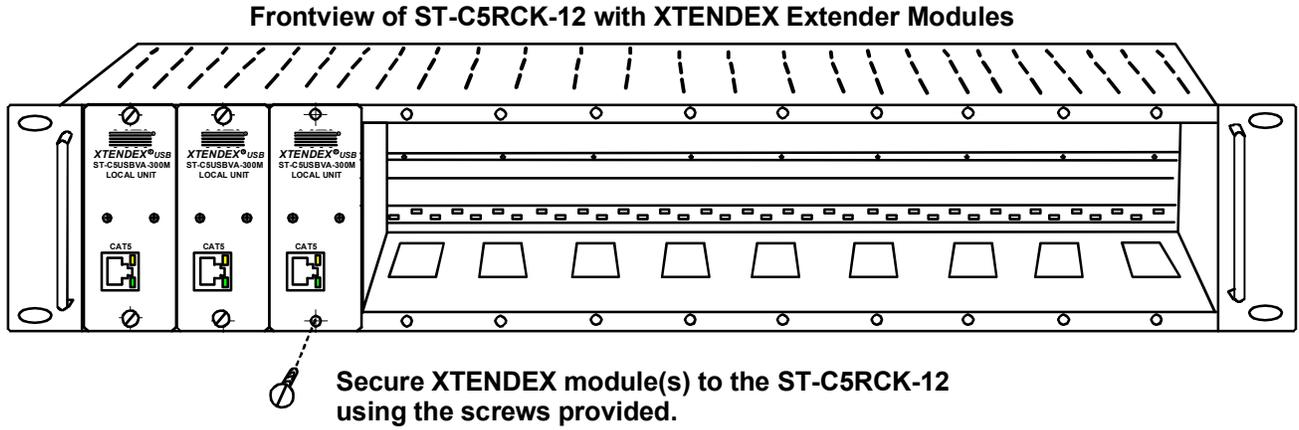

Figure 10- Secure each module to the tray
2. If a MAC CPU is connected, press the <M> key. The keyboard LEDs will momentarily flash and the "MAC" LED on the Remote Unit will illuminate to indicate MAC Mode is ON. (See Fig. 10)